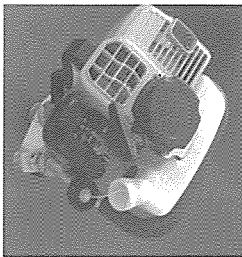

Fig 6
①Open the oil can lid. Get out the fuel filter from the oil can with metal hook and clean it. ②When cleaning the fuel filter, clean the oil can at the same time as it's shown in Fig.6,7 and8.